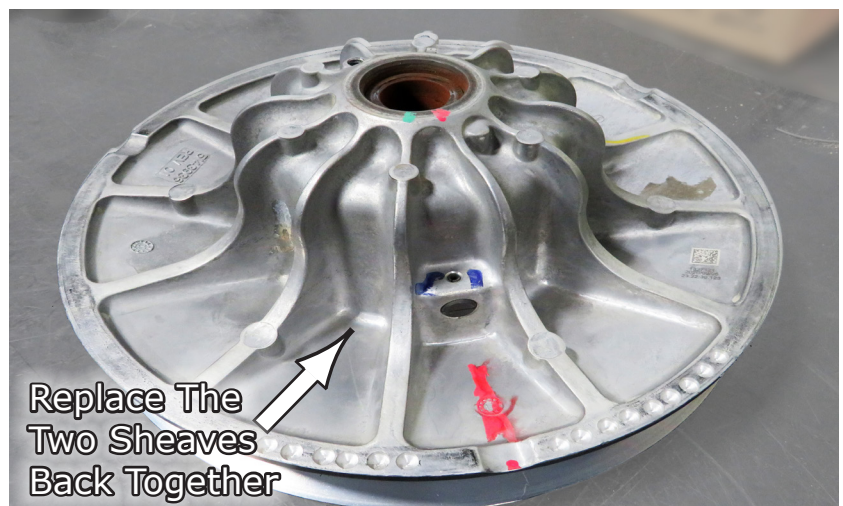

Fig.17
17. After tightening the bolts down, you can now replace the other sheave putting them back together, See **Fig.17**, ready to reinstall onto the machine. But we will do that ahead in another step.